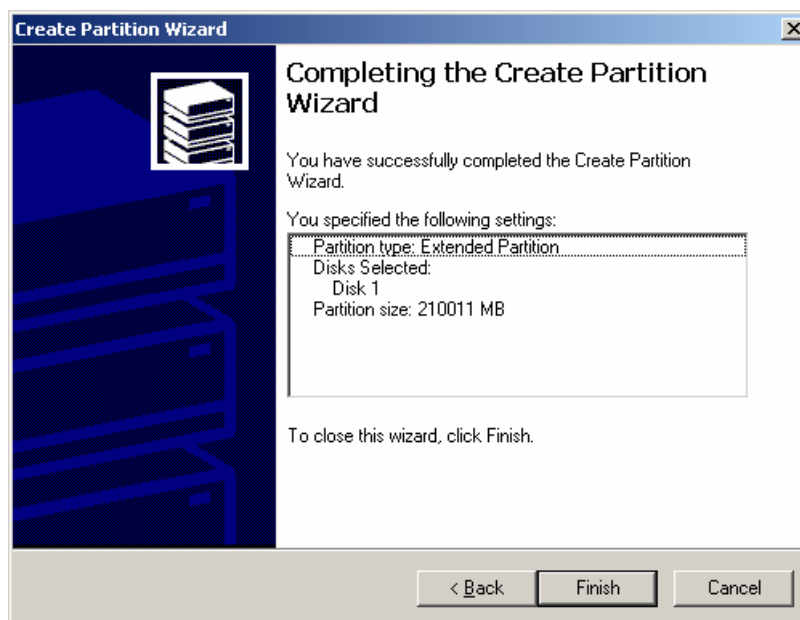

Figure 2-43 [Completing the Create Partition Wizard] dialog box
- 1) The [Completing the Create Partition Wizard] dialog box is displayed, as shown in Figure 2-43.